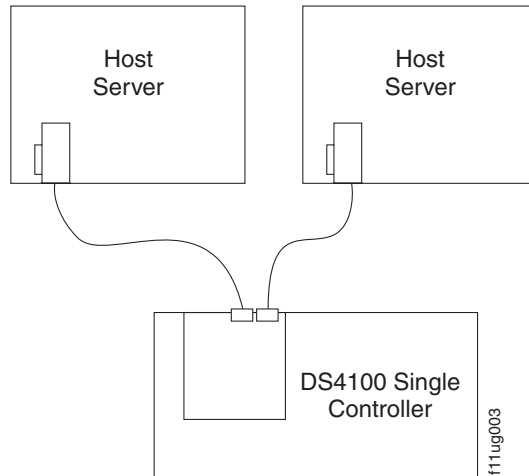

Figure 31. Example of a dual server configuration with one adapter on each server (single-controller storage server)
- Dual server configuration with one adapter on each server, as shown in Figure 31 on page 41